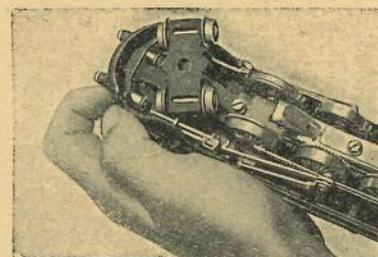

Fig. 4
3) Sodann von der Stirnseite der Lokomotive, von außen her, die auszuwechselnde Glühlampe mit der Fingerspitze fest hineindrücken, bis sie in das Gehäuse fällt (Fig. 4).
- 3^o Repousser l'ampoule de dehors avec le bout de l'index, jusqu'à ce qu'elle vienne tomber dans la caisse du châssis (Fig. 4).
- (3) Push the bulb inward with the tip of the forefinger until it drops into the housing of the locomotive (Fig. 4).
- (4) Turn the locomotive right side up and shake out the bulb into the hollow of the other hand.
- (5) Insert the new bulb with the tip of the forefinger or by means of a forceps, taking care to see that the spot of solder on the cap of the bulb enters the corresponding recess in the socket.
- (6) Push the spring back to its proper position and make sure that it bears tightly against the cap of the bulb.